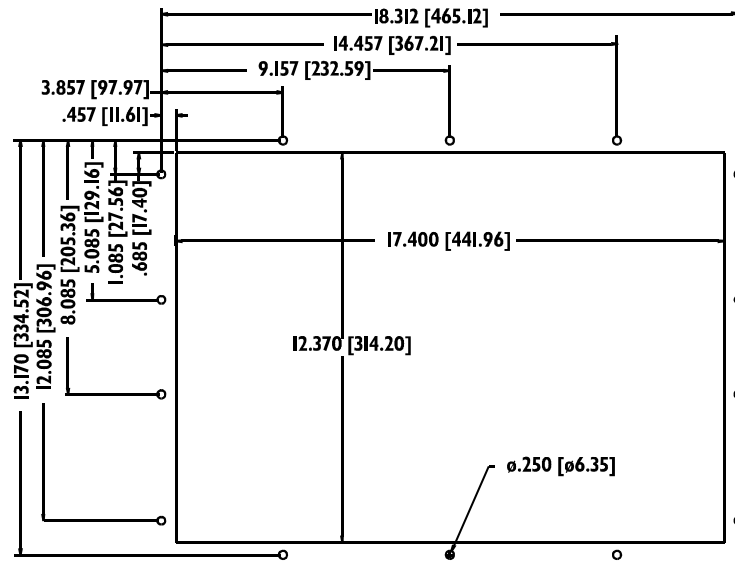

Figure 3-22. System Cutout Dimensions
2. Cut the hole according to the cutout dimensions in Figure 3-22.